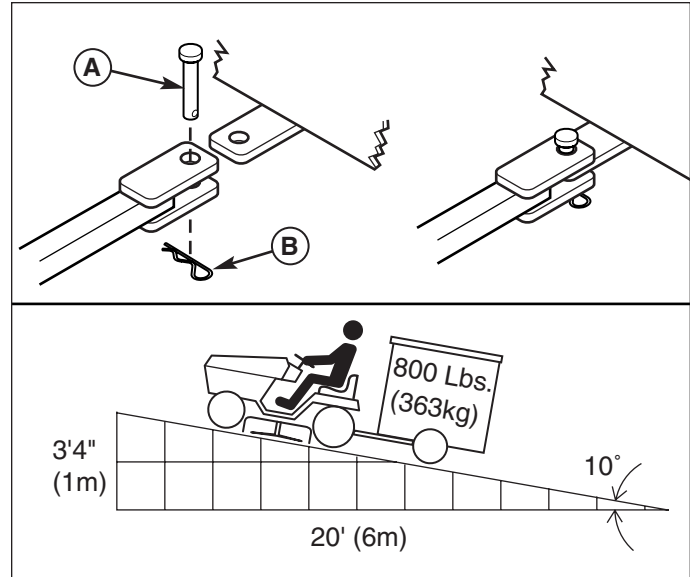

Figure 23. Trailer Weight Recommendations
The maximum weight of a towed trailer should be less than 800 lbs (363 kg). Secure the trailer with an appropriately sized clevis pin (A, Figure 23) and clip (B).